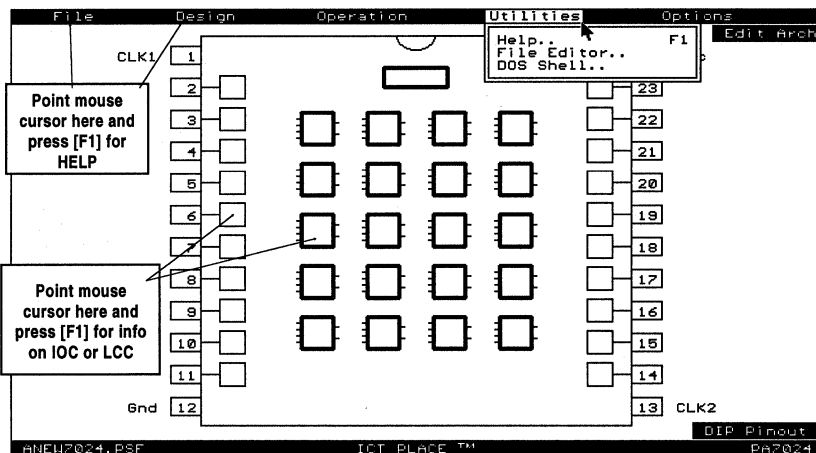

Figure 10-4, Utilities Menu Option
- Help Provides general information on the Help instruction. For individual Help per command, move the mouse to the command in the menu window and press the [F1] key. See Figure 10-4 for additional Help locations.